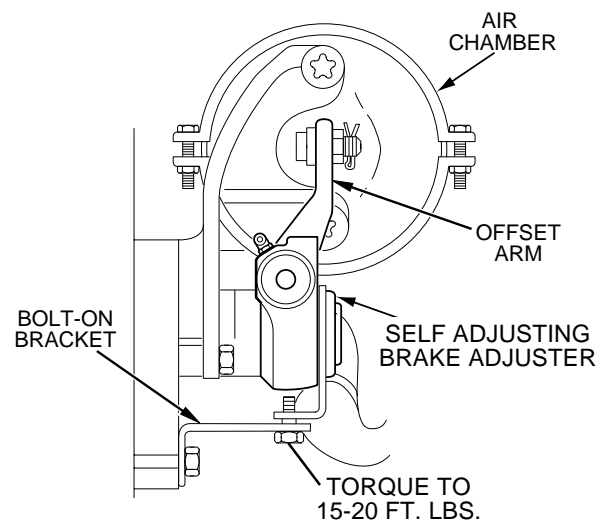

Figure 4 Offset (Bolt-On Type Bracket) Installation
- Offset brake adjuster using bolt-on type bracket (See Figure 4.)